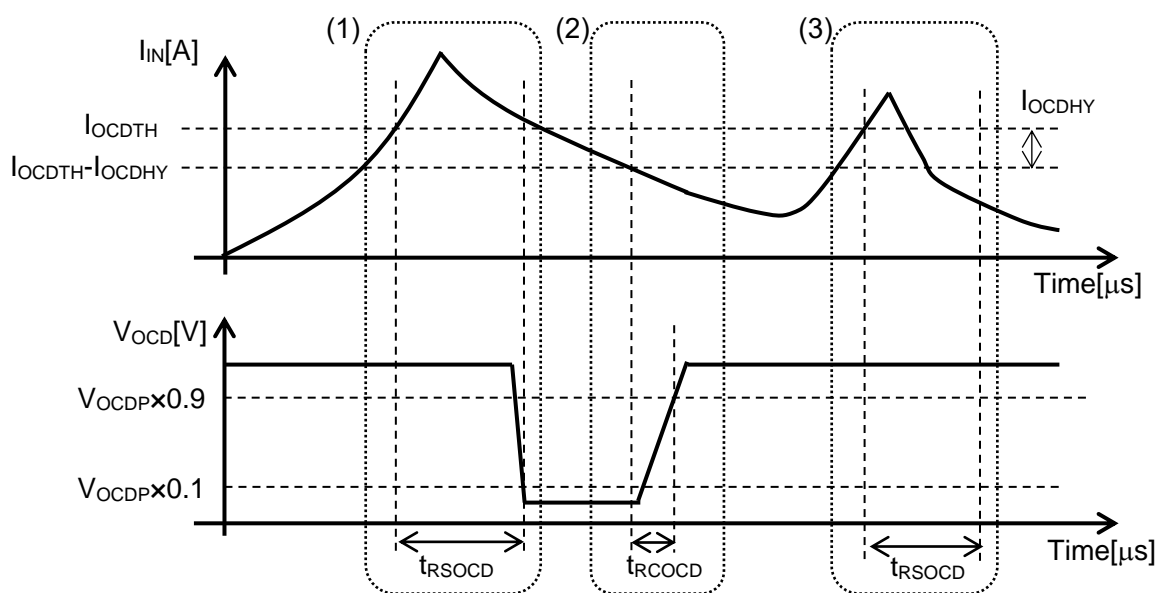

Figure 6. Overcurrent Detection Function of CZ-3A05
10.4. Overcurrent Detection Function is operated as below. (See figure 6.)